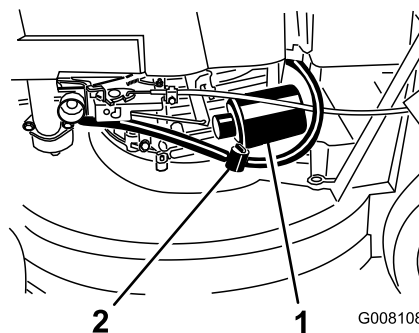

Figure 22
5. Place a rag under the oil filter to catch any oil that may leak out as you remove the filter (Figure 22).
3. Close the fuel valve (Figure 22).